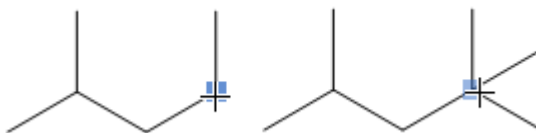

Figure 6.15 Adding two bonds to an atom
- Point to the same atom as in Step 2, (shown in Figure 6.15), and click twice (slowly) to add two more bonds.